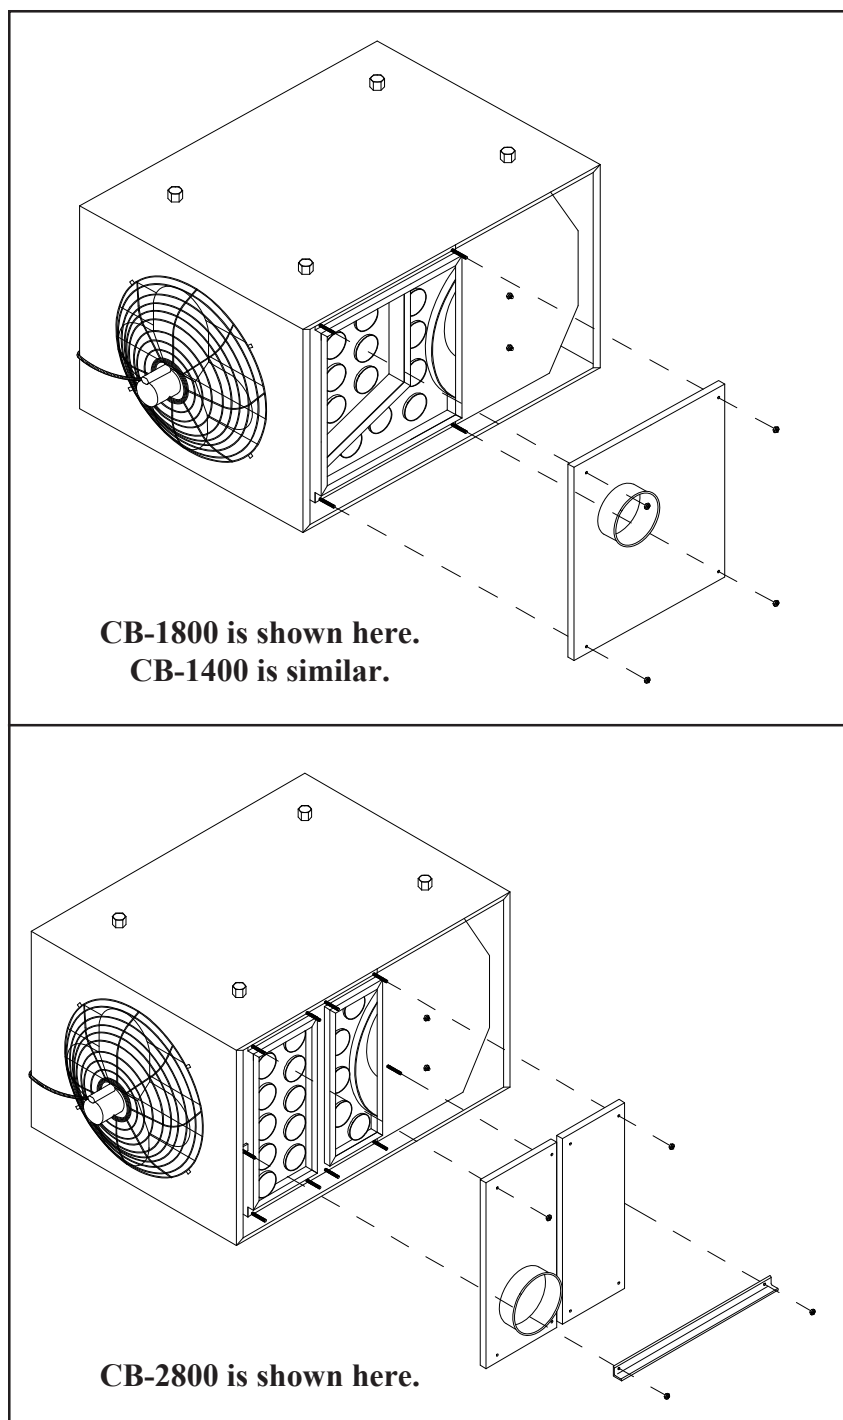

Figure 9B - Accessing the Combustion Chamber for Cleaning
4. Remove the clean-out door(s) to clean ash from inside the combustion chamber (see Figure 9B):